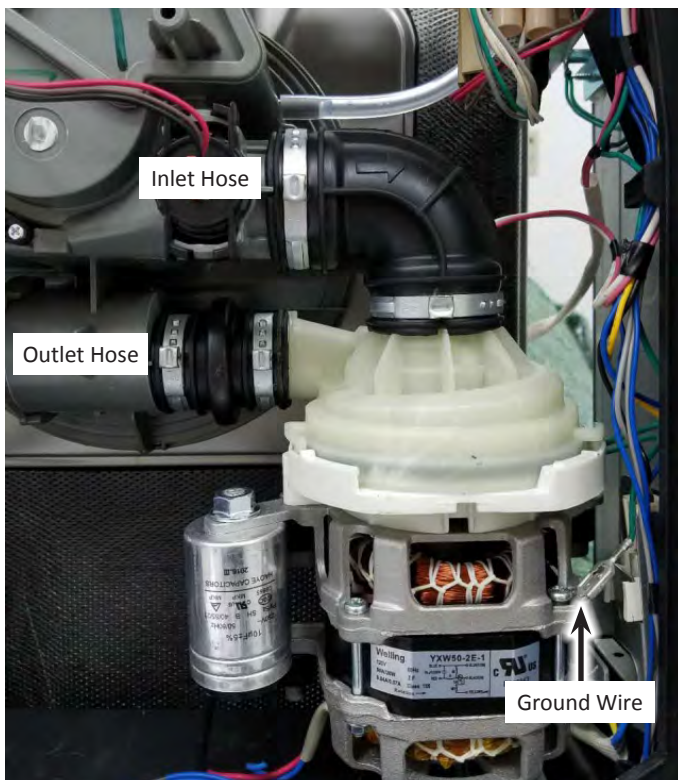

Figure 1
4. Remove the one (1) screw that attaches base cover to the base. Remove base cover and set aside.
5. Remove wash pump outlet clamps and hose (see Figure 1).
6. Remove wash pump inlet clamps and hose (see Figure 1).